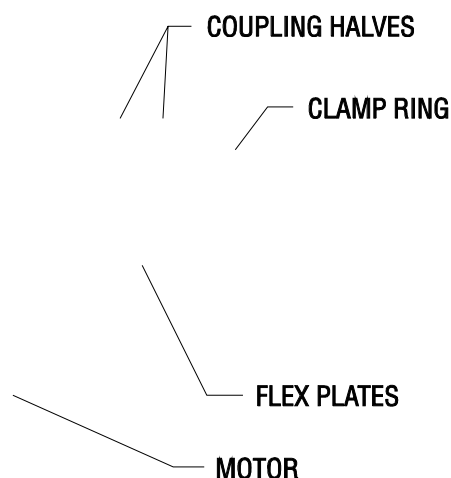

Fig. 9-2 Motor coupling components.
3. Visually inspect the flex plates to ensure they are parallel to the coupling halves and the slits in the coupling and clamp ring are in alignment (See Fig. 9-2). Tighten the SHCS on the motor coupling at the lead screw. (Place a drop of blue Loctite® on the screw before inserting.)